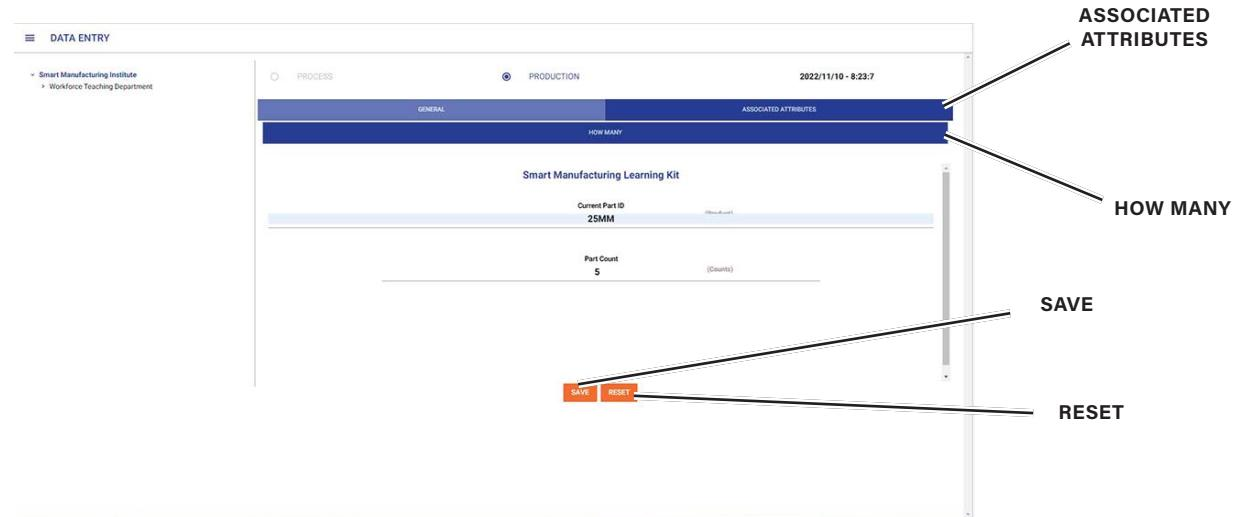

Figure 9-14. BorgConnect Dashboard Data Entry Main
- D. Click **HOW MANY** as shown in figure 9-14.